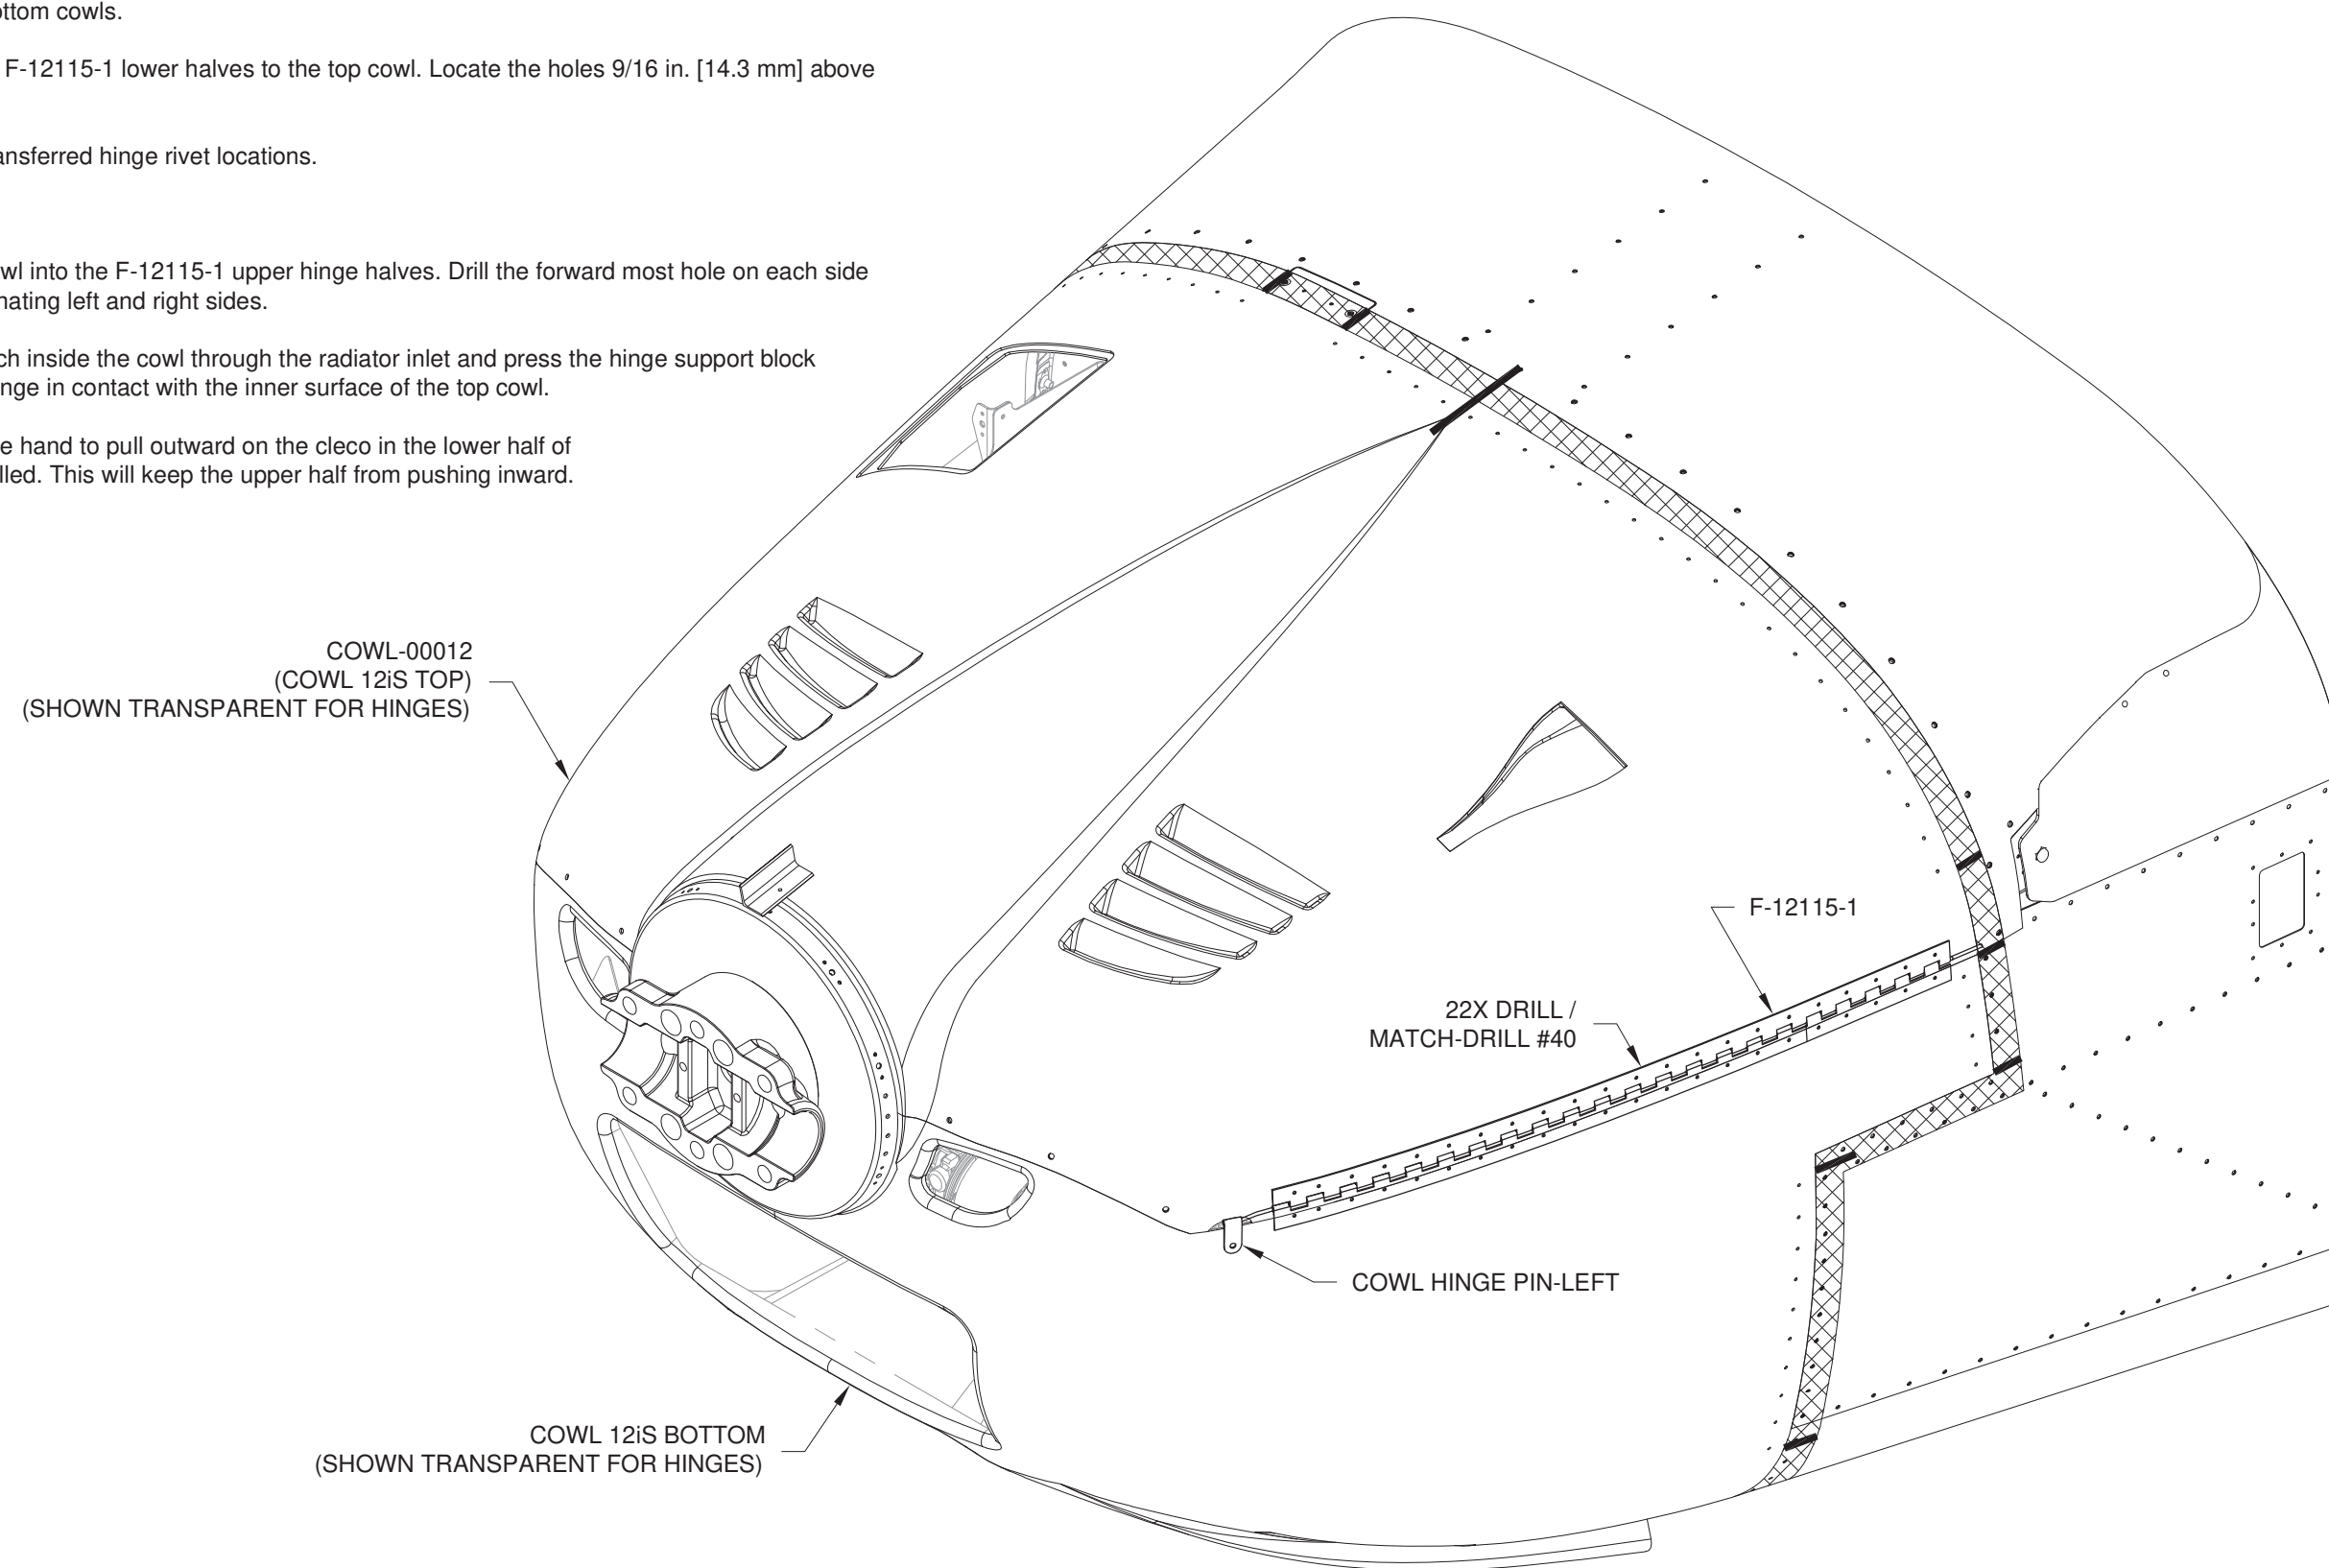

FIGURE 1: DRILLING THE SIDE HINGES
Step 1: Final-Drill #19 the holes in the top cowl and bottom cowl on each side of the spinner cutout as shown in Figure 1.